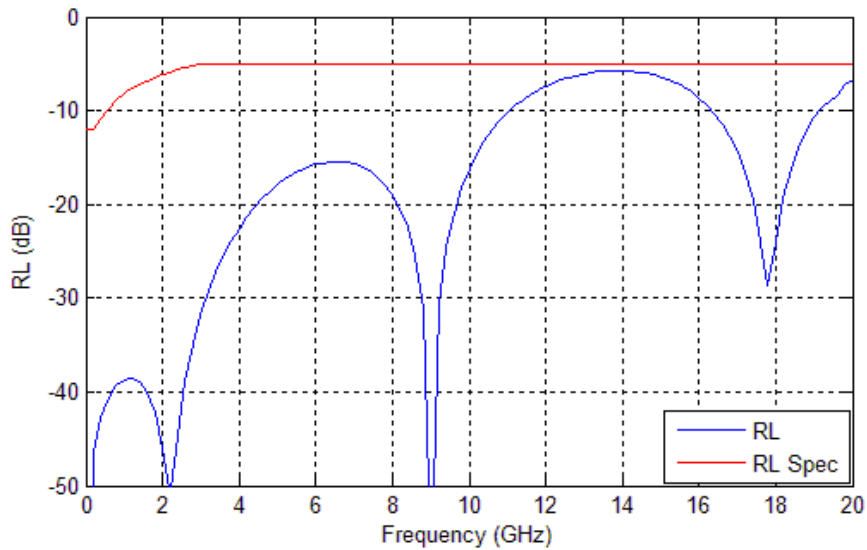
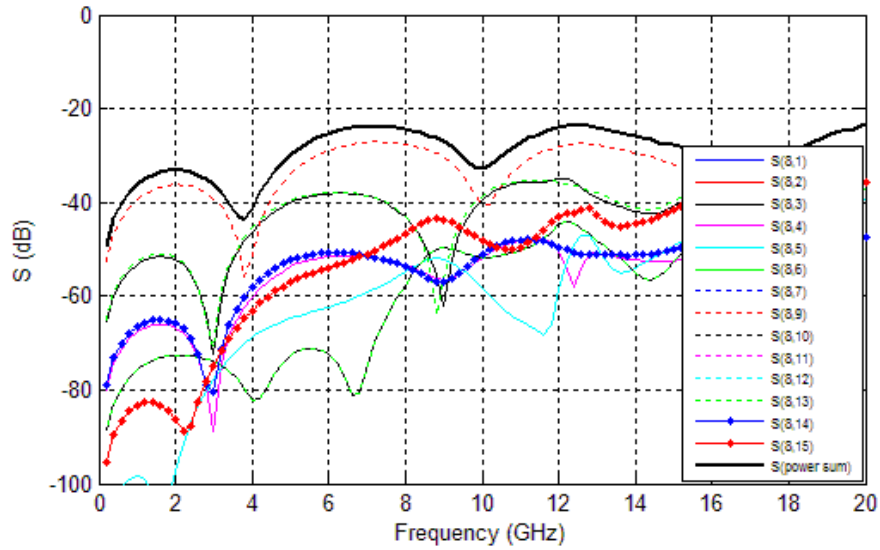
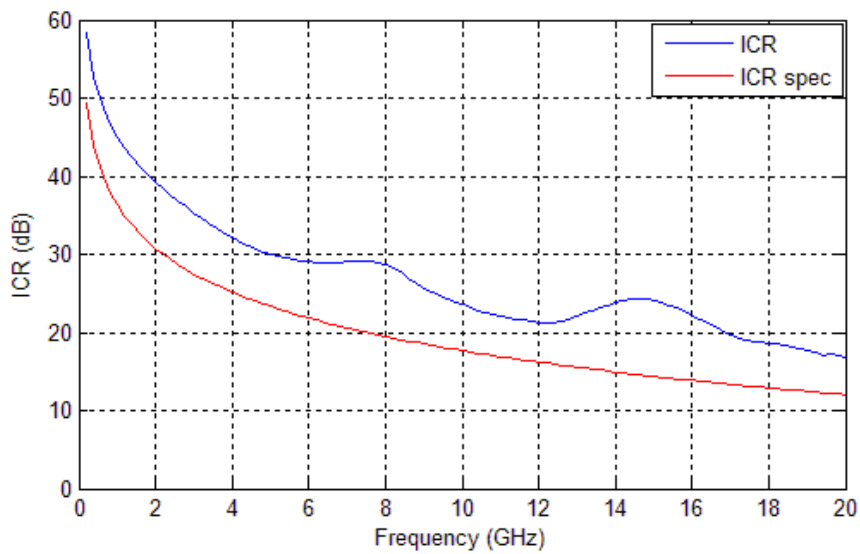

Figure 7 RL profile for pair 8 of connector only
Figure 8 Power Sum of NEXT for pair 8 of connector only
Figure 11 ICR profile of FEXT for pair 8 of connector only
The impedance and trace delay values for each of the 15 differential pairs are shown in Table 2. Figure 7 shows the return loss (RL) comparison with the IEEE802.3ap spec for the center pair 8. Figure 8 - Figure 11 show the power sum and insertion-to-crosstalk ratio (ICR) profile comparison with the IEEE802.3ap spec of NEXT and FEXT, respectively.